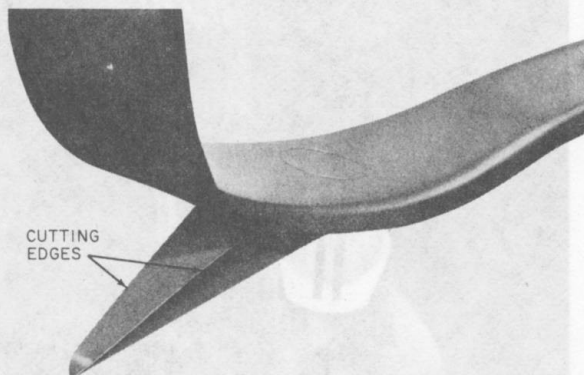

Fig. 16—Gaff Cutting Edges
**7.01** During normal use of climbers the edges along inner surface (cutting edges), Fig. 16, may become dull. The honing stone should be used to maintain sharp edges. Remember that